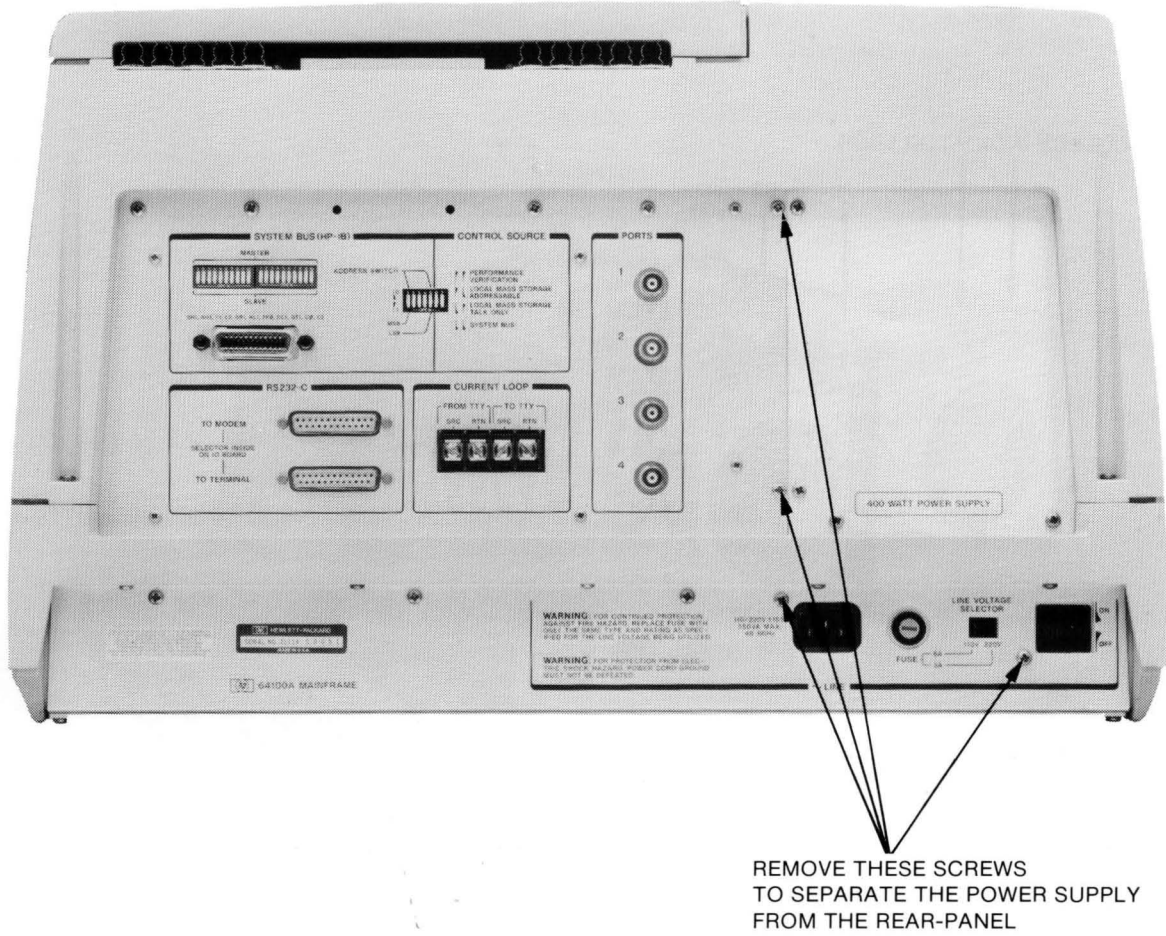

Figure 2-4. Rear-Panel Screw Locations
- l. Completely remove the four screws that secure the power supply to the Rear-panel (see Figure 2-4).